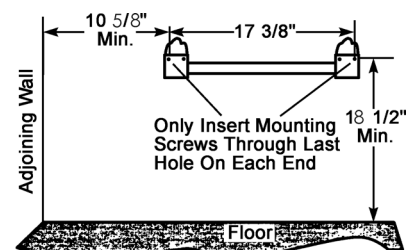

Figure 6 - Mounting Bracket Clearances (inches)
2. Mark screw locations on wall (see Figure 6).